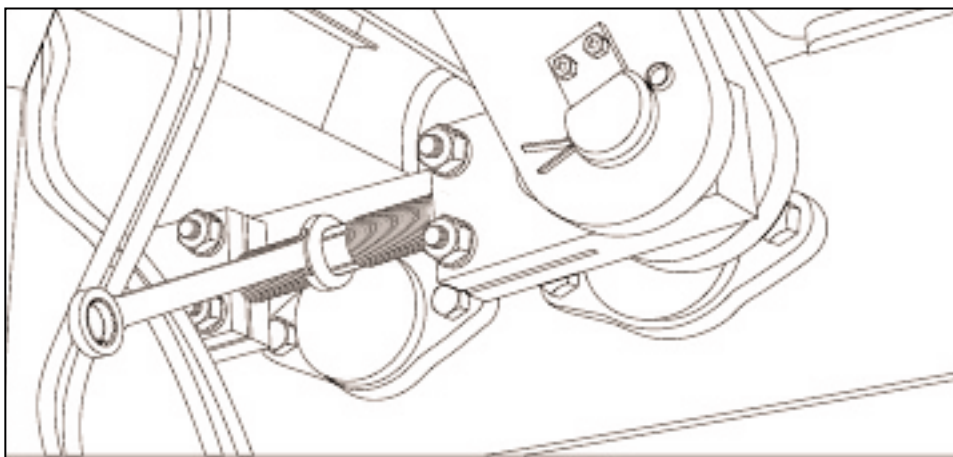

Figure 5.33 FEEDBOX LINKAGE.
- 5.8.11 If adjustment is necessary, adjust the feedbox linkages (see figure 5.33).